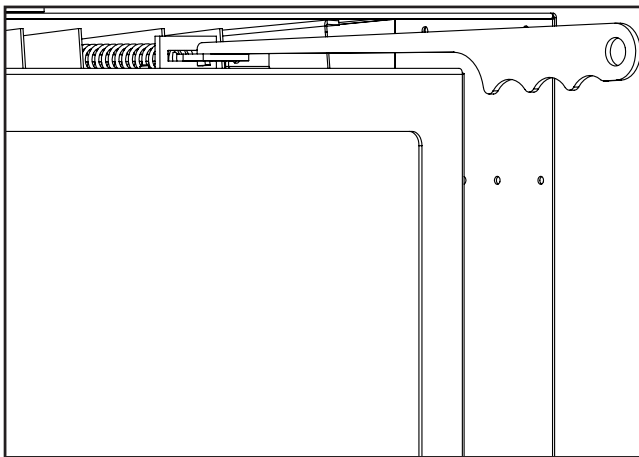
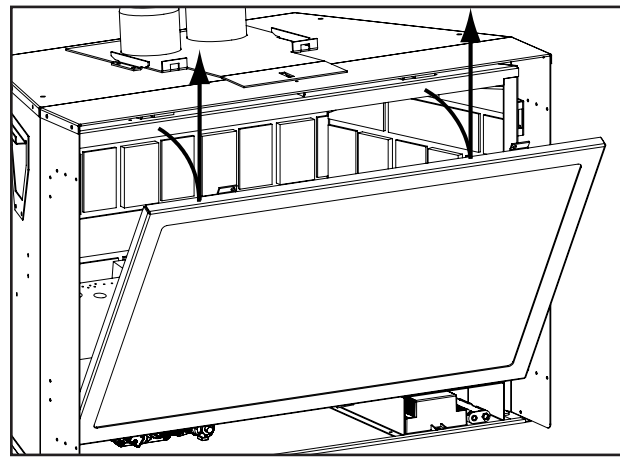

Figure 19: Door Release.
Figure 20: Door Removal.
Remove the glass door by placing the hooked end of the door release tool in the hole on the door latch mechanism (see Figure 19) and pulling the latch out then over to the center of the unit. When the two (2) latches have been released, tilt the door forward and then lift up to unhook the bottom door tabs (see Figure 20). Re-assemble in the reverse order.